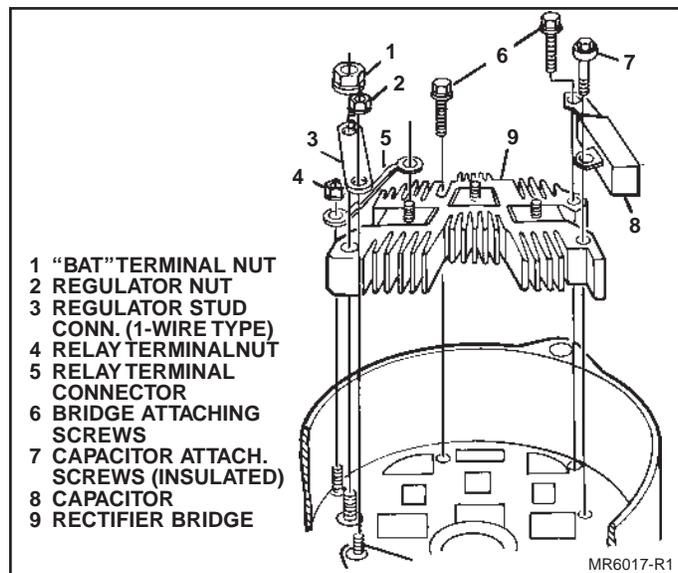

Figure 18. Removing rectifier Bridge
- If any reading is wrong, an open or shorted diode is indicated and rectifier bridge should be replaced. To remove bridge, remove BAT terminal nut, nut and connector from regulator stud, inside "R" (relay) terminal nut and connector (if used), two bridge attaching screws, and insulated capacitor attaching screw. Lift capacitor and rectifier bridge from SRE housing (Fig 18).